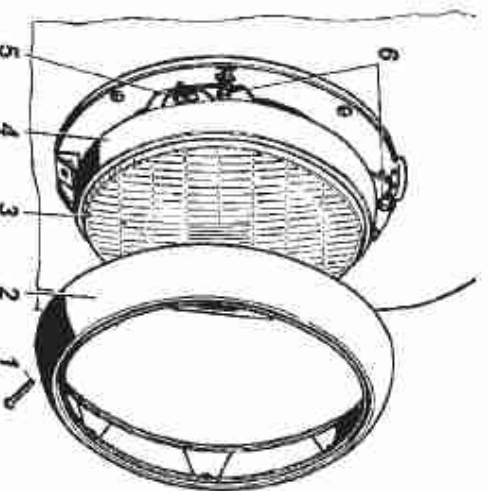
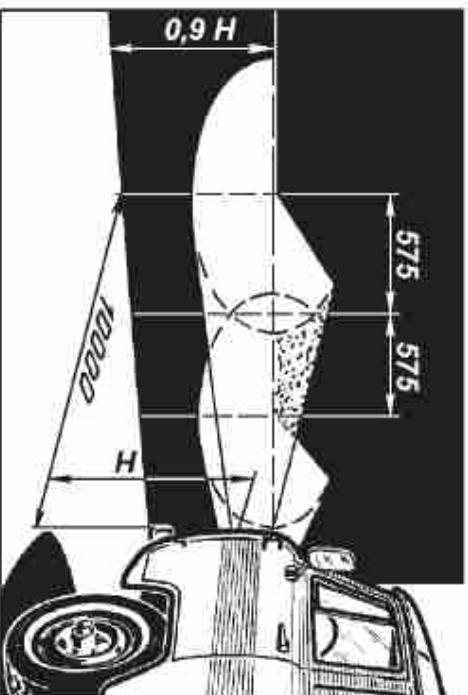

Fig. 9.38. Headlamp:
Fig. 9.39. Screen marking for headlamps adjustment:
1. Disconnect tube 2 (Fig. 9.38) from battery 5;
(Fig. 9.38) and remove decorative ring 2. Loosen three screws 5 and remove inner ring 4 with beam element 3.
3. Turn on the low beam and, closing one headlamp, adjust the other one with screws 6 (see Fig. 9.38), so that the light spot on the wall or on the screen is located as shown in Fig. 9.39. Adjusting screws of the headlamps are located symmetrically to the headlamps center in a horizontal plane.